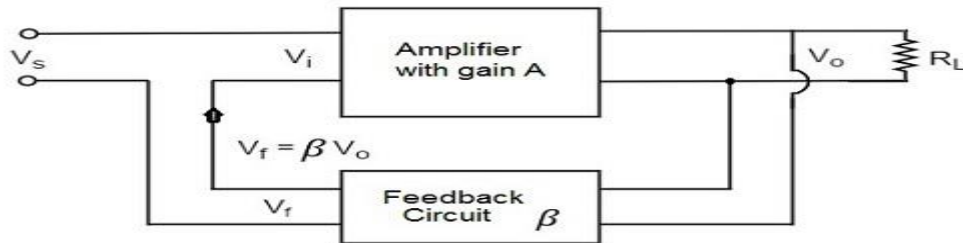

Fig.1.4.2. voltage series feedback circuit
- The following figure 1.4.2 shows the block diagram of voltage series feedback, by which it is evident that the feedback circuit is placed in shunt with the output but in series with the input.